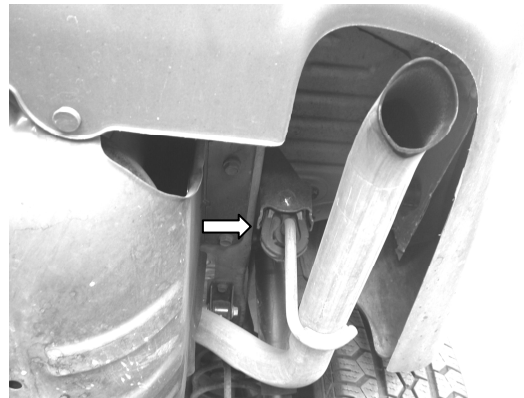

Figure 2
2. Remove the hanger shown in figure 2 attached to the tail pipe assembly from the rubber bracket and remove the tail pipe assembly from the vehicle.